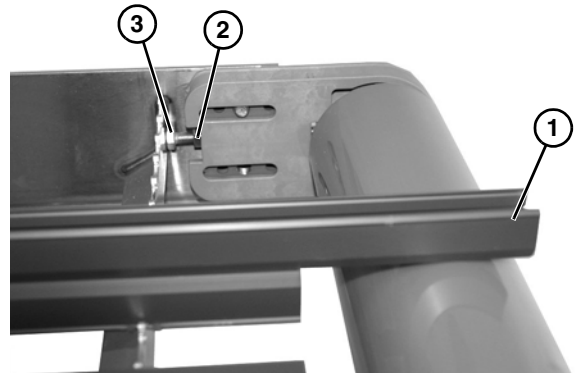

Figure 47
- Check level of head plate by placing a bed rail (Figure 47, item 1) onto top of conveyor frame and head plate.
- Loosen nut (Figure 47, item 2) and tighten or loosen bolt (Figure 47, item 3) to move head plate up or down to level with conveyor bed rail.